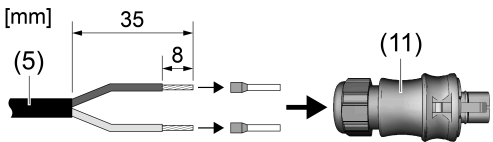

Figure 6: Connection: Plug "Wieland RST20i2"
- Please observe the maximum number of luminaires per circuit breaker (14) (see "dimensioning").
- Apply the plug (11) to the connecting cable (5) of the luminaire according to the drawing (figure 6).
- Wire the luminaire according to connection diagram: Single wiring with connection coupling (12). Linking e.g. with connector for through-wiring (13).